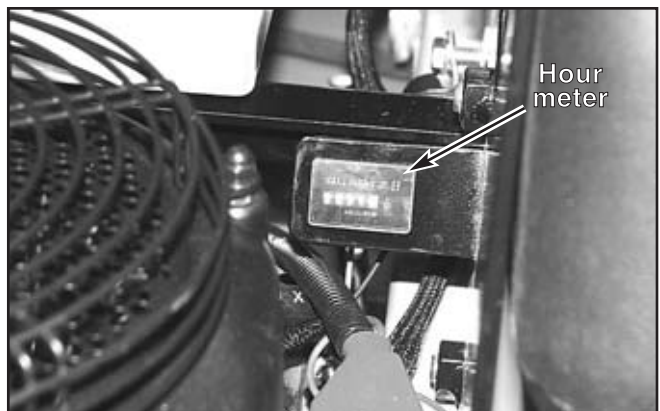

Figure 3-6
7. **Electronic hour meter (Fig. 3-6)** — registers 1/10 hour increments up to 9,999.9 total hours. Connected to the ignition switch, the meter records the accumulative time while the ignition key is switched to the RUN position and the operator is on the seat.